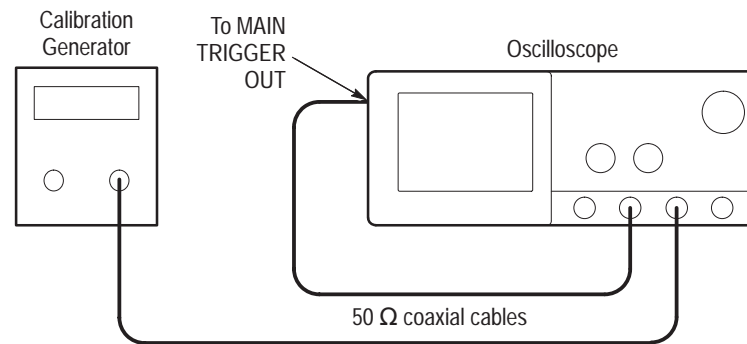

Figure 4-19: Initial test hookup
- a. *Hook up test-signal source 1 (See Figure 4-19):*